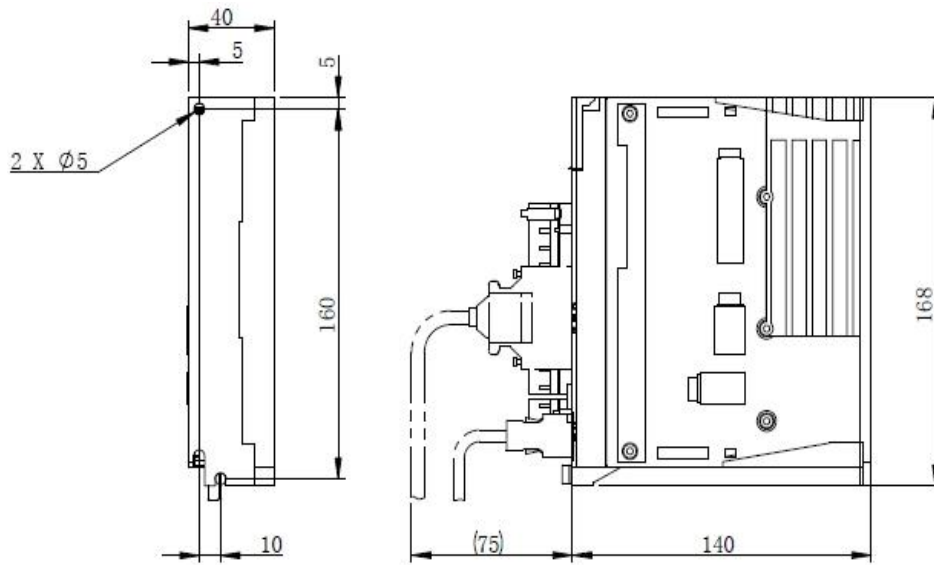
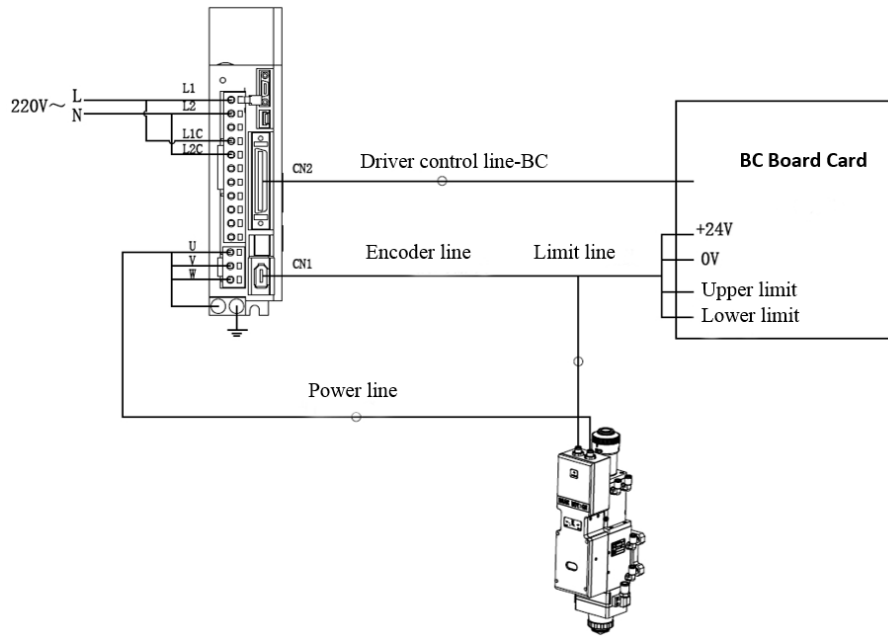
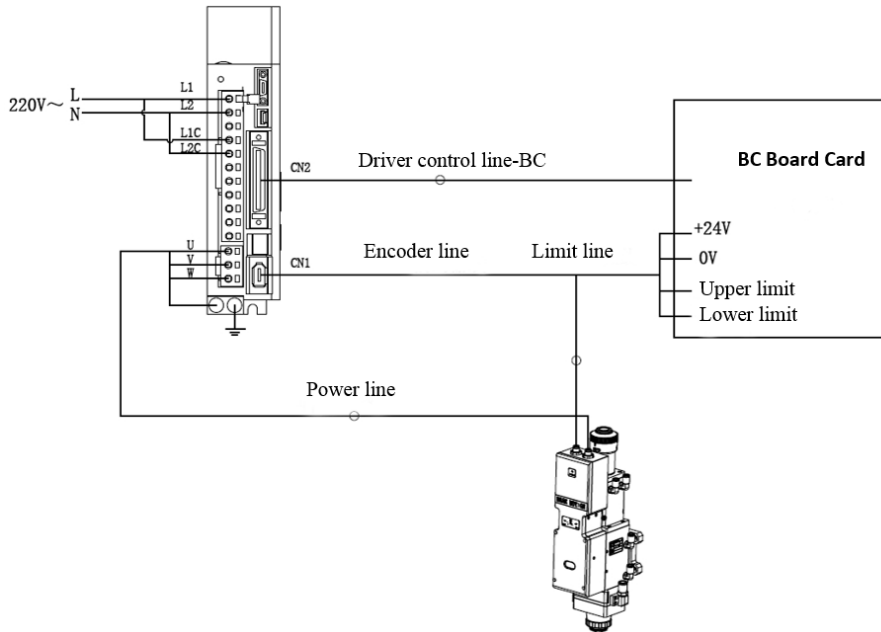

Figure4.4 —Overall size of drive (unit: mm)
Figure4.5 — Position loop FSCUT wiring diagram
Figure 4.8 — Velocity loop - FSCUT wiring diagram
The motor is AC servo motor, which should connect the end of the drive L1, L2 , L1C and L2C to AC 220V L and N. Please refer to figure 4.5 for the wiring connection mode and figure 4.4 for the driver installation size
1. The motor is AC servo motor, which should connect the end of the drive L1, L2 , L1C and L2C to AC 220V L and N. Please refer to figure 4.8 for the wiring connection mode and figure 4.4 for the driver installation size